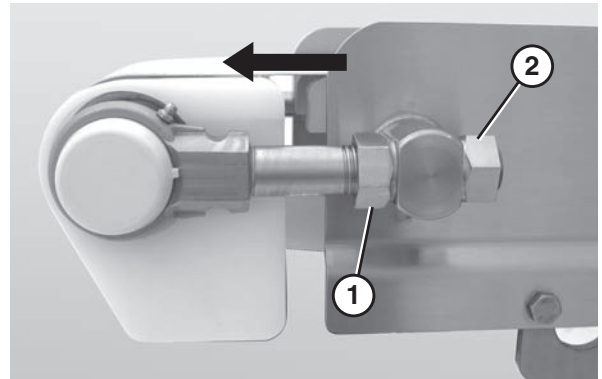

Figure 51
- Turn the front nuts closest to the tail (**Figure 51, item 1**) clockwise in order to increase tension on the belt.
- Tighten the back nuts (**Figure 51, item 2**) to secure the tail.
1. Loosen the back nut (**Figure 51, item 2**) on the idler tail shaft that needs to be adjusted.
2. Tighten or loosen the front nut (**Figure 51, item 1**) on the idler tail shaft adjust the belt tracking.